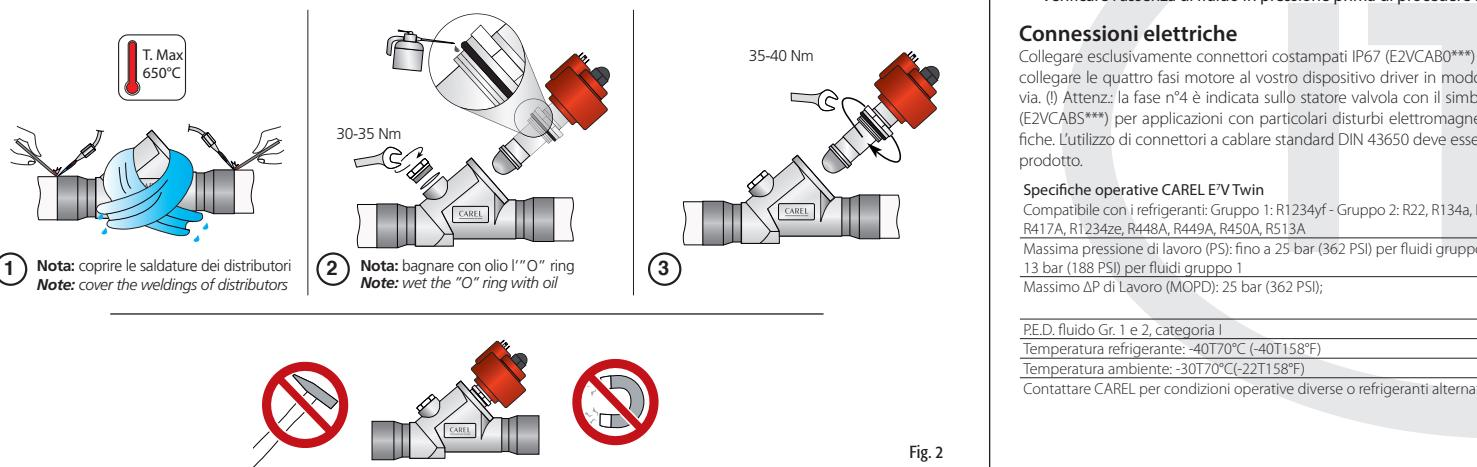

Fig.2
Le valvole E'V Twin devono essere saldate al circuito mediante brasatura dei raccordi in rame ai tubi di uscita condensatore (IN) e di ingresso evaporatore (OUT). Seguire la successione indicata in Fig. 2 procedendo in questo modo:
The E'V Twin valves must be joined to the circuit by braze welding the copper fittings to the condenser outlet (IN) and evaporator inlet pipes (OUT). Proceed as indicated in Fig. 2.
6. Make sure that the red stator is fully inserted on the cartridge with the black nut screwed on tightly until deforming the rubber ring on the stator (tightening torque 0,8 Nm). (Fig. 2 D);